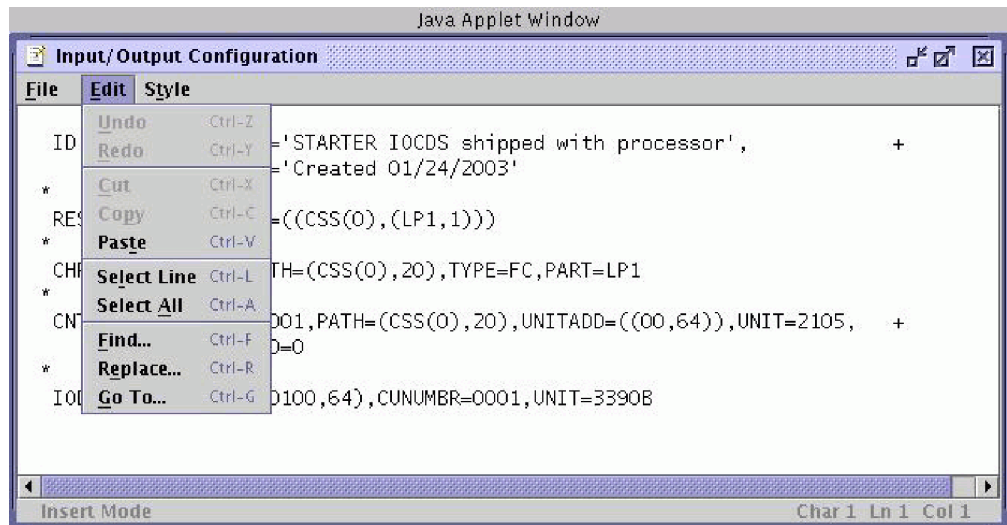

Figure 2-16. Edit Actions
**Edit:** Figure 2-16 shows the **Edit** actions under **Open Source File**.